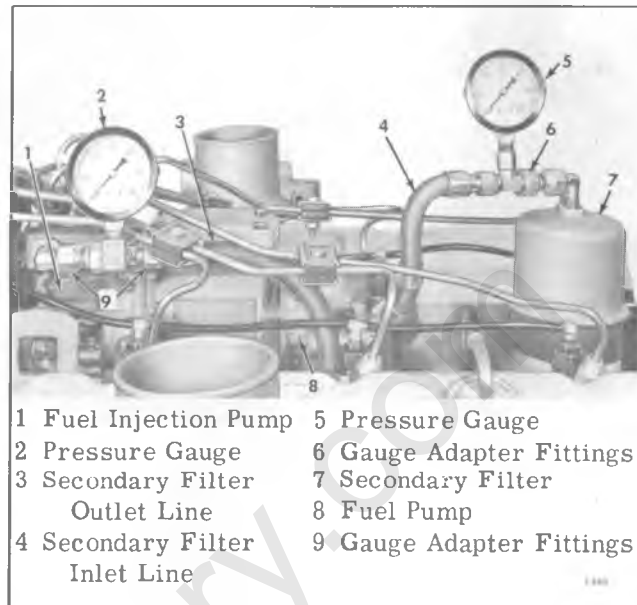

Figure 4—Testing Secondary Filter
Frequency of changing the secondary filter must be established by experience gained in actual operation of vehicle. Filter is illustrated in figure 4, Item 7.
2. Disconnect fuel flexible line from fitting at top of secondary filter and install pressure gauge which is part of testing set (J-21731) (fig. 4).
3. At fuel injection pump supply line fitting, disconnect fuel line, and assemble adapter fitting (9, fig. 4) and pressure gauge (also part of set mentioned in previous step 2).
Refer to figure 4 for view of test gauges assembled in lines.
4. Allow adapter fittings (6 and 9, fig. 4) to remain loose enough to bleed out any air, and allow engine to idle until fuel begins to flow, then tighten the fittings.
5. With engine running, observe pressures on the two gauges (fig. 4). Normal pressure on gauge (5) in filter inlet line should be 40 to 50 psi. If secondary filter is in satisfactory operating condition, the reading on gauge (2) will show approximately 5 psi lower reading than that shown on gauge (5). If the pressure drop (differential) is greater than 15 psi between the two gauges, a partially clogged filter is indicated and the secondary filter assembly should be replaced.